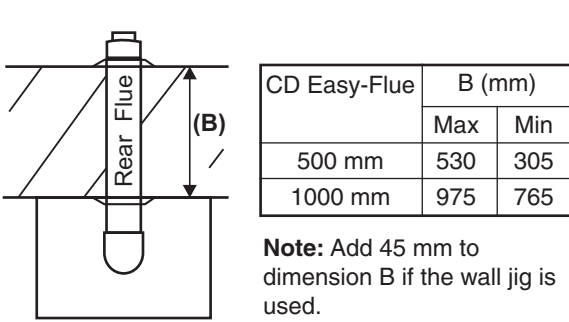

Fig. 4.5
#### 4.6 FIT THE FLUE - Figs. 4.5 and 4.6
- When the flue length required is more than the maximum stated in Section 4.6, paragraph 1, refer to the table below and Figs 4.5 and 4.6.